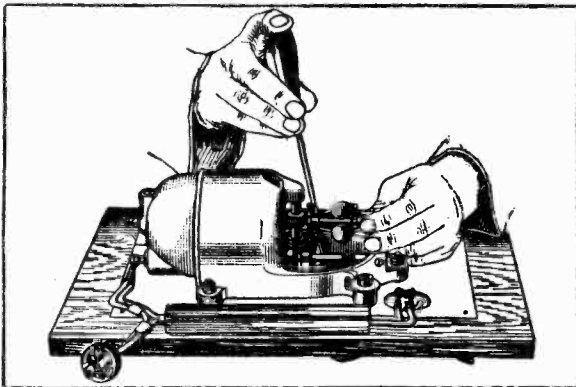

Fig. 8 Adjusting Governor Springs
- a. Governor Springs—A noise or rattle may sometimes be caused by loose or broken governor springs. Tighten all the governor spring screws as shown in Fig. 8. If this does not stop the noise, loosen the screws on the disc end of the governor springs and allow the motor to run for a minute or so to permit the springs to assume their correct positions. Stop the motor and retighten the screws.